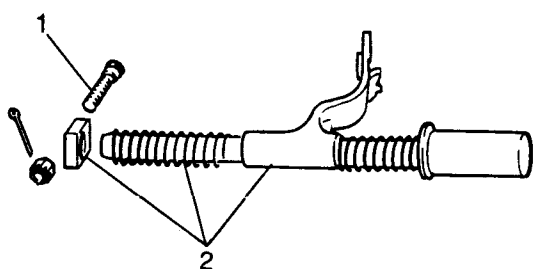

Fig H1.99
(1) Refer to Fig H1.99. Remove the split pin, castle nut and bolt (1) that fixes the retaining plate to the selector shaft.
(2) Remove the retaining plate, springs and selector fork (2).